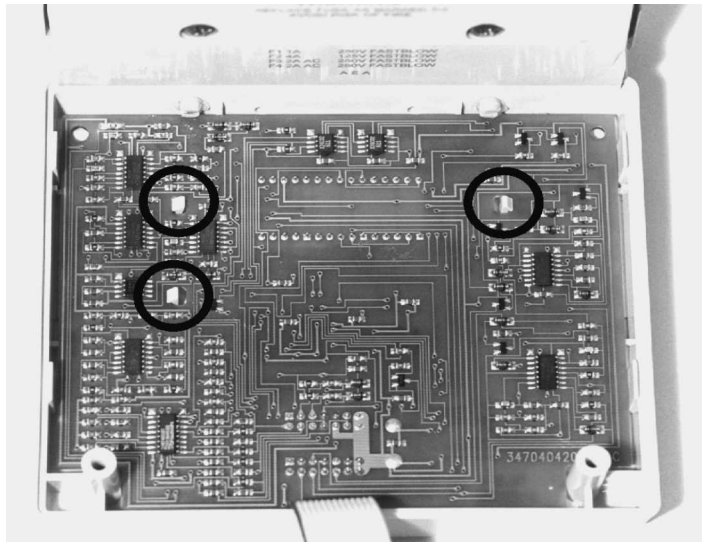

Figure 7.2 Showing PCB fasteners
4. Un-clip the three fasteners (Figure 7.2) which hold the front (control) PCB to the front of the case, and separate the front PCB from the case.